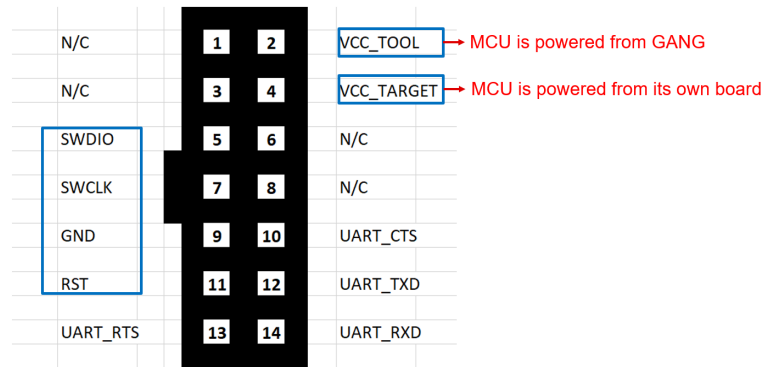

Figure A-18. MSP-GANG Pin Assignment
1. Finish the pin connection used for software as shown in Figure A-18.